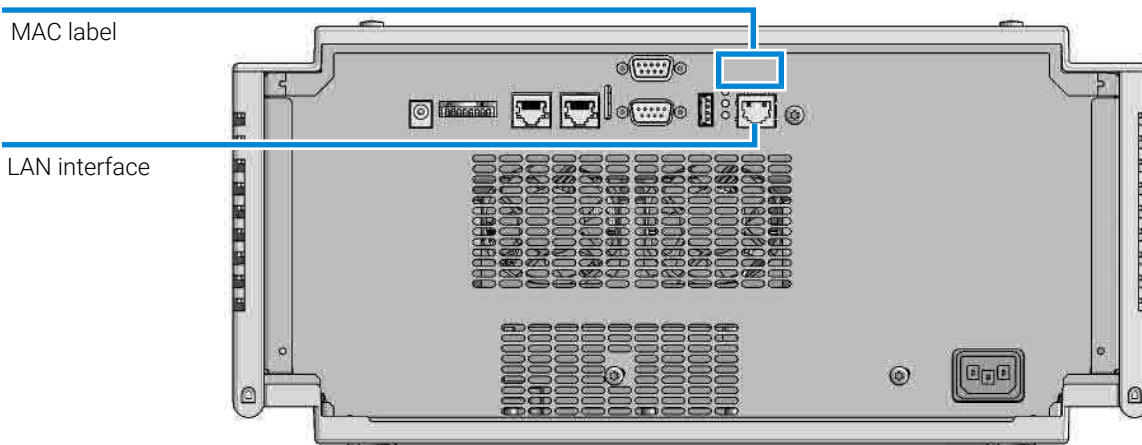

Figure 35: Location of LAN interface and MAC label
- 1 Note the MAC (Media Access Control) address for further reference. The MAC or hardware address of the LAN interfaces is a world wide unique identifier. No other network device will have the same hardware address. The MAC address can be found on a label at the rear of the module underneath the configuration switch (see Figure 35 on page 355).
- 2 Connect the instrument's LAN interface (see Figure 35 on page 355) to